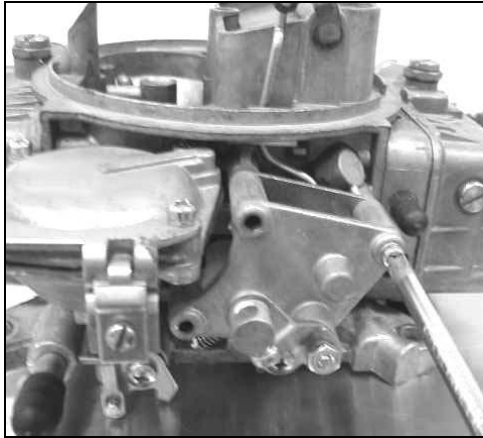

Figure 1
1. Remove the three (3) screws securing the manual choke (see **Figure 1**). Remove the fastener clip from the choke rod and the manual choke backing plate. Retain the fastener clip for a later time.